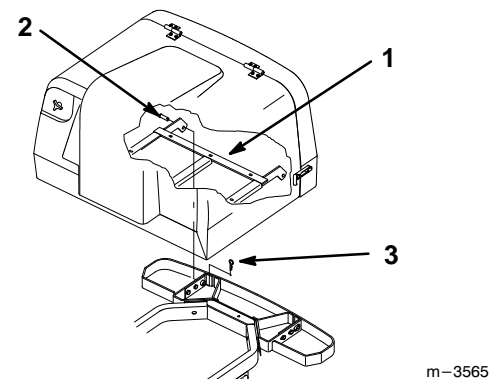

Figure 13
5. Place hopper assembly onto frame and align with holes in bumper mounts. Insert (2) clevis pins and secure with hairpin cottes (Fig. 13).